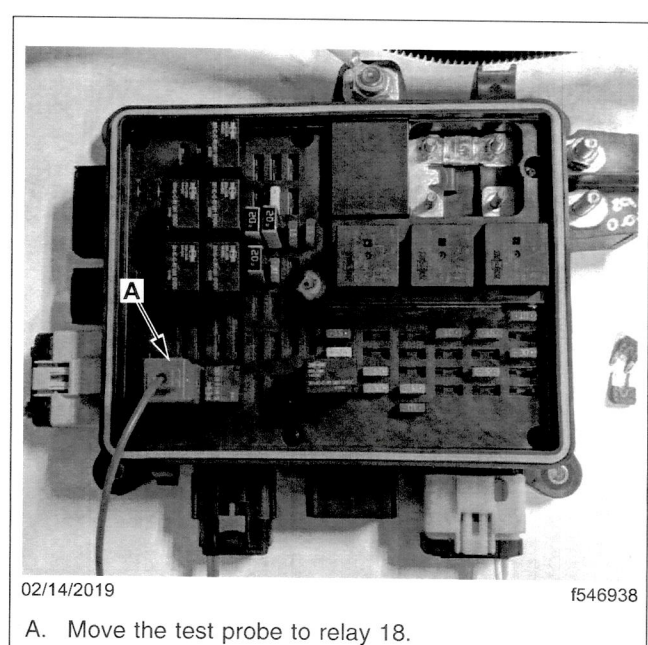

Fig. 5, Test Probe Moved to Relay 18
11. Move the test probe to the location for relay 18. See **Fig. 5**. This will test the J9 connector Pin 6 and Pin 7.